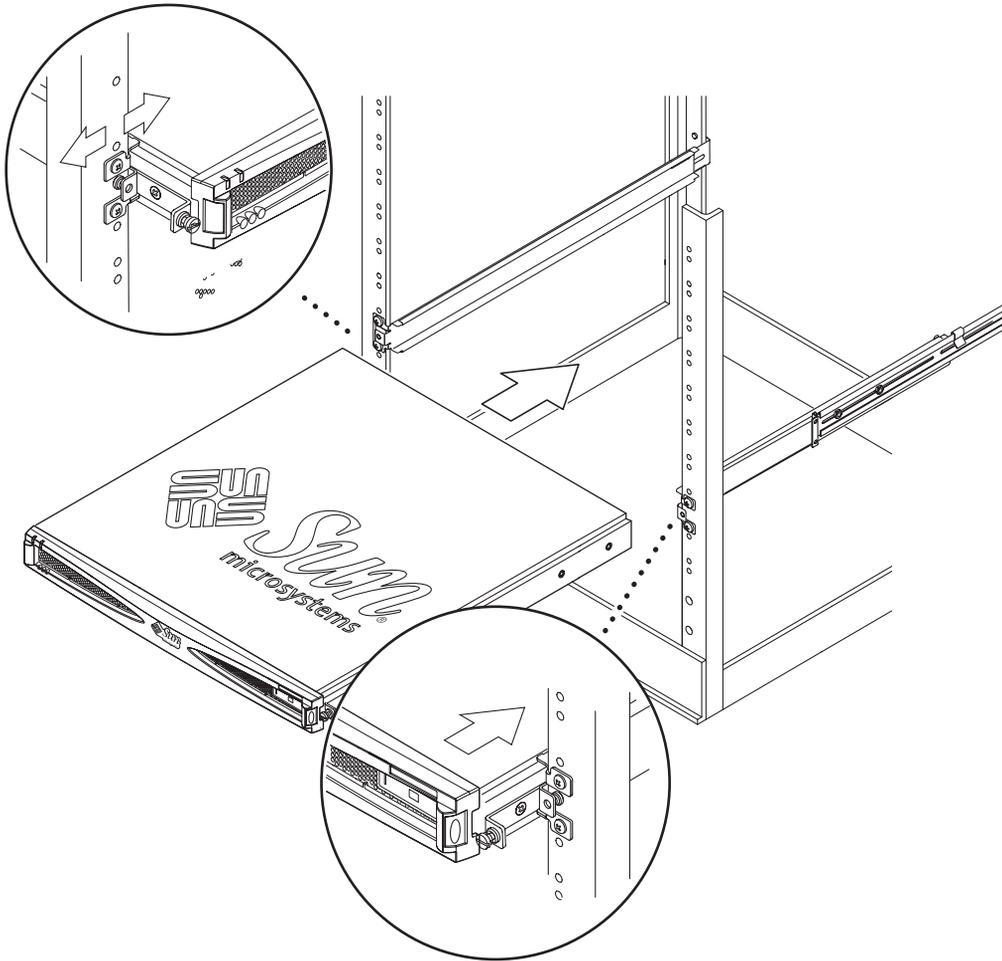

FIGURE 3-5 Sliding the StorEdge S1 Unit Into a Rack
8. Slide the StorEdge S1 unit into the rack (FIGURE 3-5).